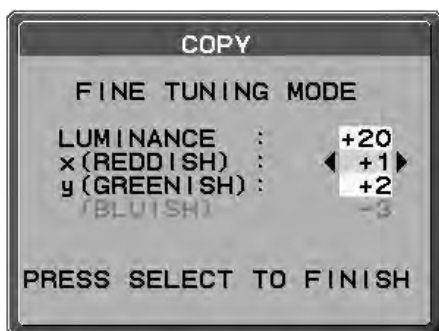

Figure C.6
10. At the FINE TUNING MODE message (**Figure C.6**), press SELECT if the copy result is satisfactory. If the copy result is unsatisfactory, manually fine tune the white point using the "LEFT" and "RIGHT" buttons, and press SELECT.